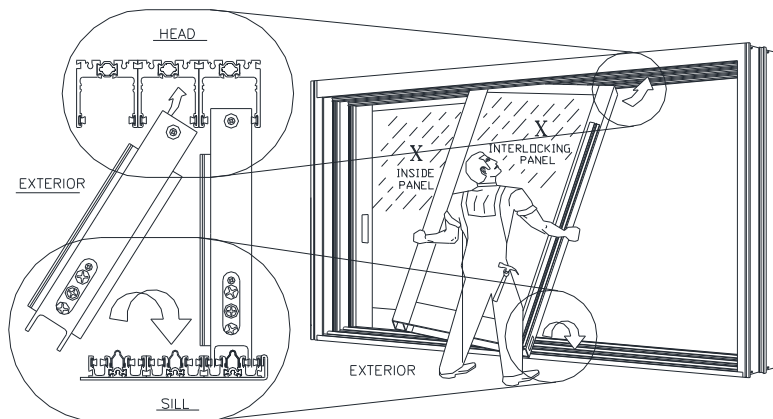

Figure 26:
- Insert panel into the upper head channel. Push up and swing the bottom inward until panel is vertical, then lower panel down onto the track (Figure 26).